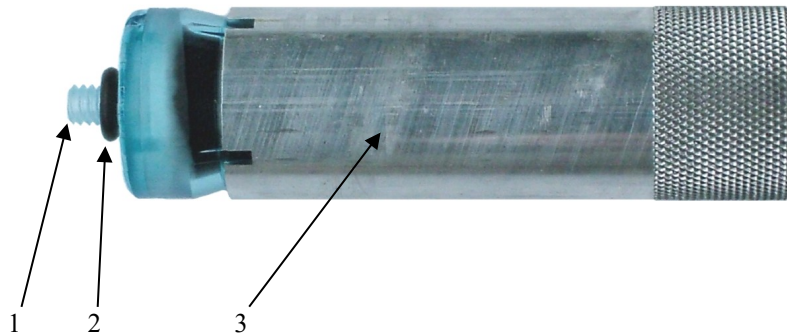

Fig. 7
- Insert new filter into filter-exchange tool. Make sure that the rubber gasket (fig. 7, item 2) of the filter cartridge is in place. Insert tool with filter into opening on instrument front panel.